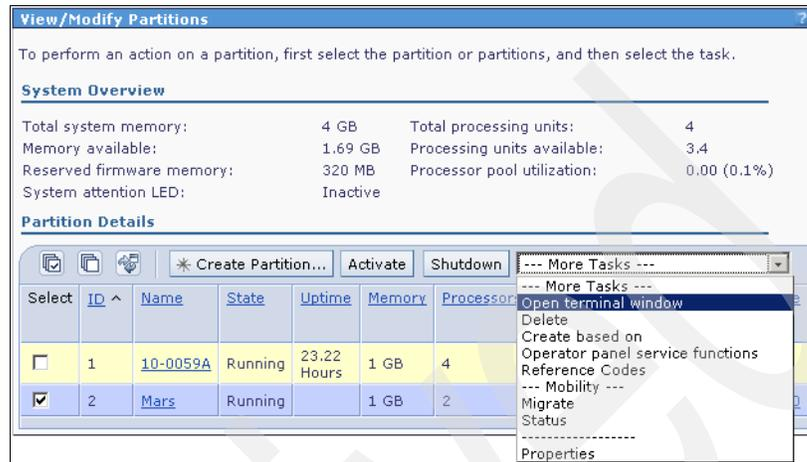

Figure 4-29 Open a virtual terminal to the partition
- The status of the partition has changed to *running*. Select **Open Terminal** from the More Tasks drop-down list box to open a terminal connected to the selected partition. See Figure 4-29.